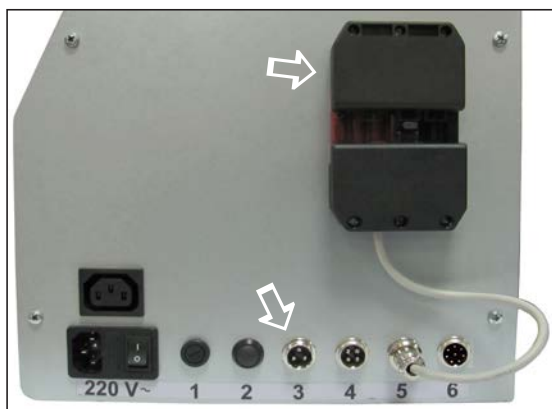

Fig. 12 Screw feeder motor cable
- A) Connect the cable connector coming from the screw feeder motor to the burner (3 fig. 12)